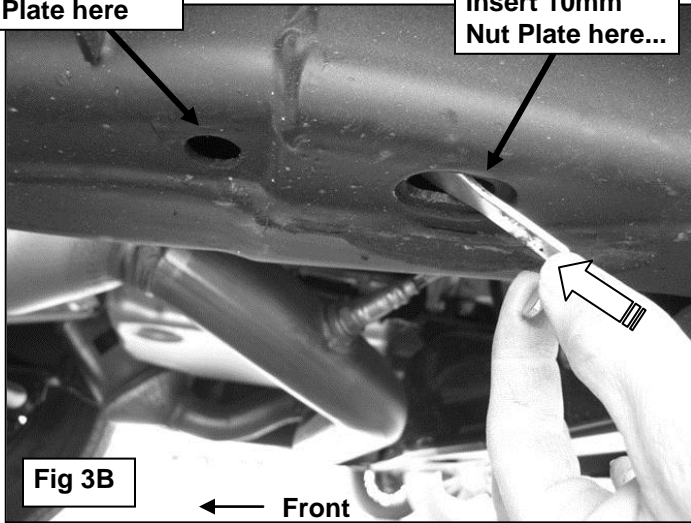

Fig 3B
3. Locate the two factory holes in the bottom of the frame towards the front of the vehicle. Insert (1) 10mm Nut Plate, **(Figure 3A)**, into the oval hole and line up the threaded nut with the forward round hole, **(Figure 3B)**. **NOTE:** Nut Plate and Support Brackets are not required on 2011-12 25-3500 models.